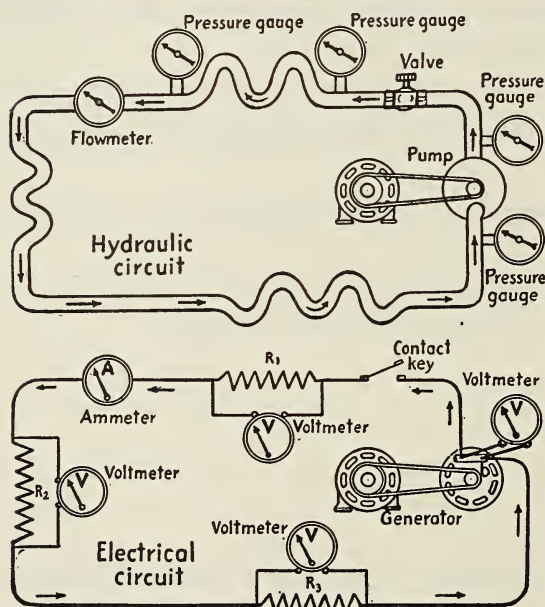
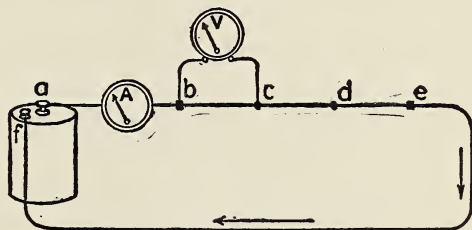

Fig. 217. Diagrams of a water pump and an electric generator, illustrating similarity of the conditions of flow.
Fig. 218. Diagram showing operation of a simple circuit. The arrows indicate the direction of flow.
An electric current a flow of electrons. An electric current may be considered a flow of electrons along a conductor. The flow occurs because of a difference in electrical potential, which is merely a term for electrical pressure. Thus the flow of electricity may be compared with the flow of water in a pipe, which occurs because of a difference in pressure. If we examine the upper drawing in Figure 217, we can readily see how a difference in water pressure works. The pump at the right increases the pressure at the first pressure gauge, causing it to be higher than the pressure at all the
The lower drawing in Figure 217 shows how an electrical circuit compares with a water circuit. An electric current flows as indicated by the arrows because a generator at the right causes the
When water flows through a water system as illustrated in Figure 217, it meets resistance from friction where the pipe is small or crooked. The smaller the pipe or the more crooked it is, the greater the resistance. Likewise an electric current meets resistance when it flows through a circuit. The quantity of this resistance depends upon the length, size, and temperature of the conductor and the material of which the conductor is made.
What determines the rate of flow? If we wish to increase the rate of flow in a water system such as shown in Figure 217, we may (1) use a larger pump or run the pump faster or (2) use straighter or larger pipes and thus reduce the friction. Similarly, if we wish to increase the rate of flow in an electrical circuit, we may (1) increase the electromotive force, or e.m.f., or (2) reduce the resistance. The rate of flow, or strength of a current, is measured in amperes, an ampere being a unit of strength. The difference in potential is measured in volts, a volt being a unit of potential difference. The resistance in a circuit is measured in ohms, named after the German scientist Georg Simon Ohm. An ohm is the
Ohm's law is valid not only for a complete circuit but also for any part of the circuit, as in the circuit shown in Figure 217.
A simple circuit. Figure 218 represents a simpler circuit than the electrical circuit in Figure 217. Let us apply these fundamental relations to it. The cell furnishes the electromotive force (e.m.f.) of the circuit. The ammeter *A* shows the quantity of current traveling through the circuit. Because there is just one path for the electrons to follow in the whole circuit, the rate of flow must be the same at all points. The ammeter is said to be connected in series with the remainder of the circuit.
7. In the upper part of Figure 217 in what two ways can the rate of flow of the water be increased?
8. In the lower part of Figure 217 in what two ways may the current be increased?